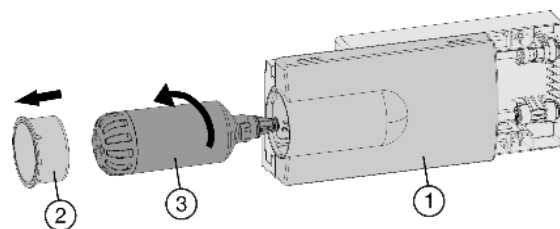

Fig. 8
- ▶ Pull out the tray *Fig. 8 (1)*, if necessary.
- ▶ Remove the filter cover *Fig. 8 (2)*.
- ▶ Turn the water filter *Fig. 8 (3)* approximately 100° counterclockwise and pull it out.